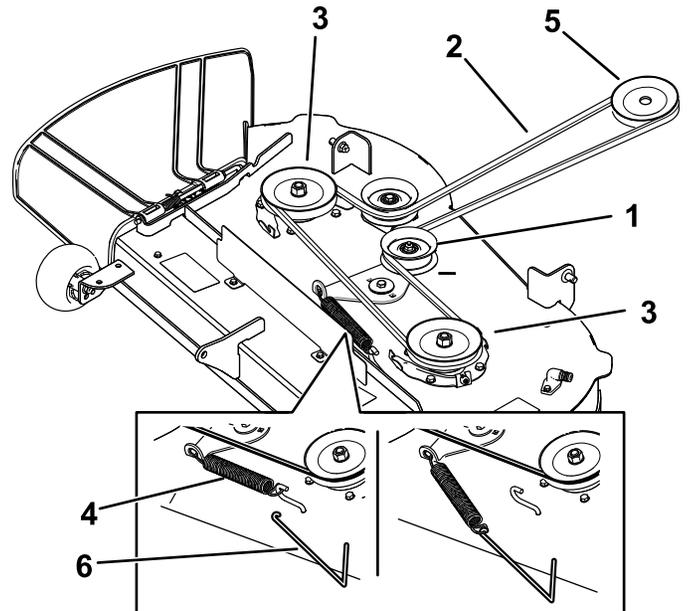
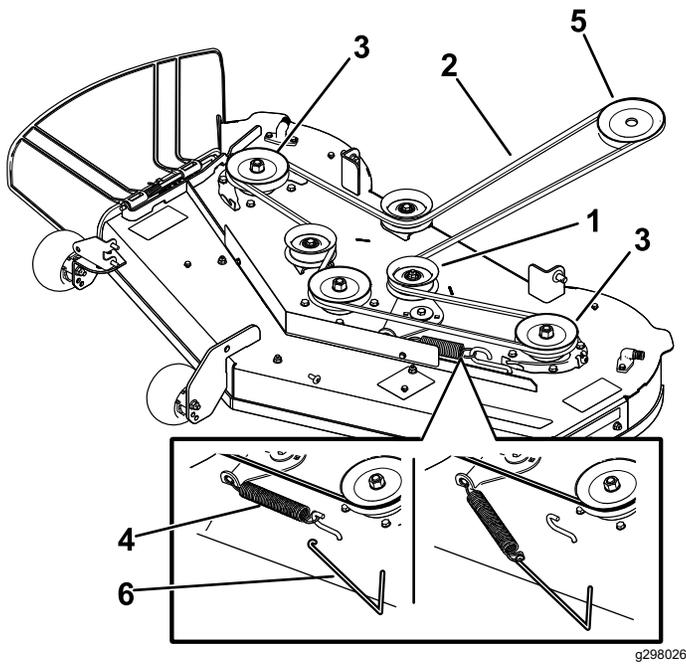

Figure 54
Figure 55
5. Using a spring-removal tool (Toro Part No. 92-5771), remove the idler spring from the deck hook to remove tension on the idler pulley, and roll the belt off the pulleys (Figure 54 or Figure 55).
6. Route the new belt around the engine pulley and mower pulleys (Figure 54 or Figure 55).
7. Using a spring-removal tool (Toro Part No. 92-5771), install the idler spring over the deck hook and place tension on the idler pulley and the mower belt (Figure 54 or Figure 55).